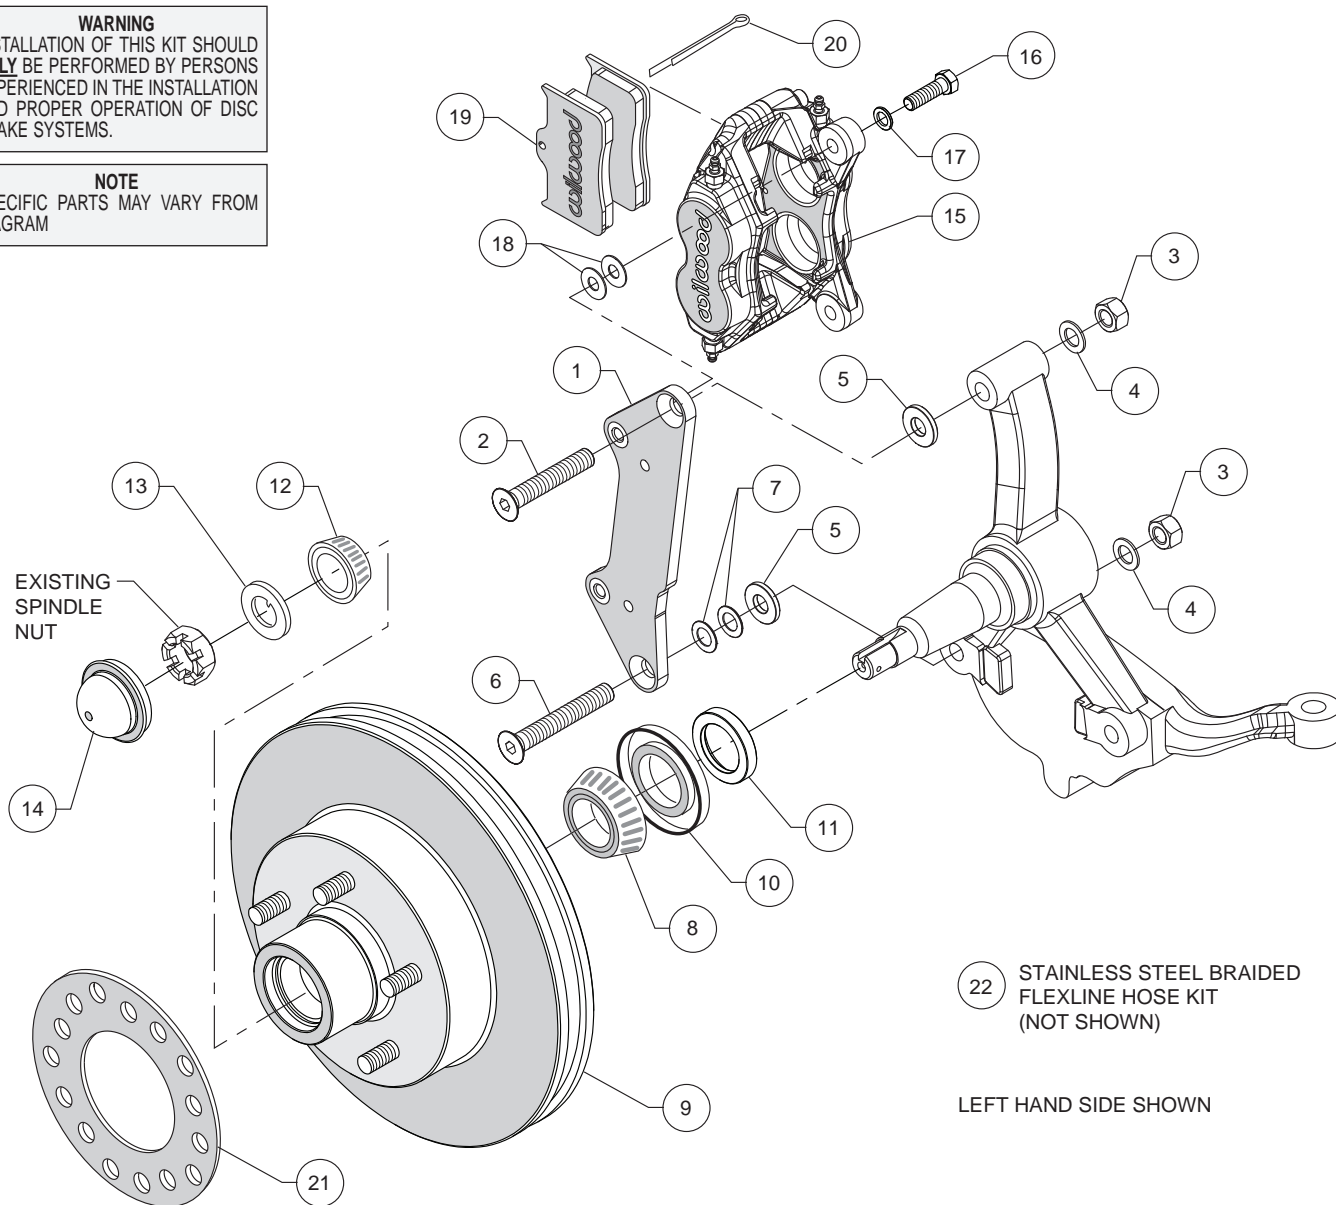
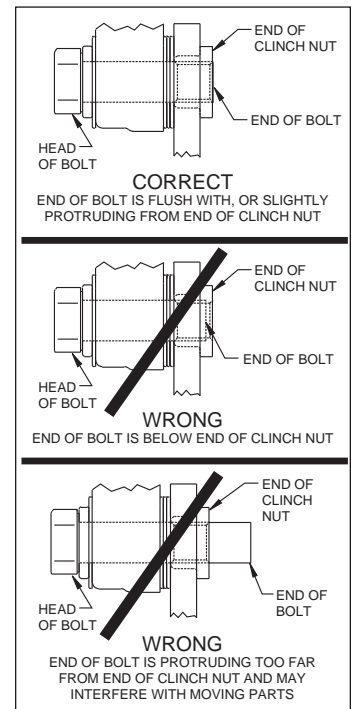

Figure 1. Typical Installation Configuration
Figure 3. Clinch Nut Engagement Diagram
Assembly Instructions (numbers in parenthesis refer to the parts list and Figure 1 on the preceding pages): **CAUTION:** All mounting bolts must fully engage clinch nuts. Be sure to check that all bolts are either flush or protruding through flanged side of clinch nut after shimming, Figure 3.
•The caliper bracket (1) should initially be installed with clean, dry threads on the mounting bolts. Orient the bracket as shown in Figure 1 and Photo 1, and install using bolts (2/6), nuts (3) and washers (4). Place a .147" thick spacer (5) positioned between the bracket and spindle on both the upper and lower bolts, as shown in Figure 1. Initially place two .032" thick shims (7) on the lower bolt between the bracket and spacer, Figure 1. Ensure that the flanged heads of the clinch nuts in the bracket are facing outboard, Photo 1. Temporarily tighten the mounting bolts.
•Pack the large inner bearing cone (8) with high temperature disc brake bearing grease (available from your local auto parts store) and install into the backside of the hub (9), Photo 2.
•Install the grease seal (10) by pressing into the backside of the hub (9), flush with the end of the hub.
•Slide the bearing spacer (11) onto the spindle. Ensure the chamfered I.D. faces inward, Photo 3.
•Temporarily install the hub/rotor (9) onto the spindle using outer bearing (12), spindle washer (13), and spindle nut. Check that the caliper mounting bracket (1) is aligned parallel to the rotor, Photo 4. If not, adjust by adding or subtracting shims (7) on the lower bolt between spacer and bracket, Figure 1. Once the bracket alignment is correct, remove bolts one at a time, apply red *Loctite*® 271 to the threads and torque nuts to 77 ft-lb.
•Remove hub/rotor and pack the small outer bearing cone (12) with high temperature disc brake bearing grease and final install into the front side of the hub (9). Slide the hub/rotor onto the spindle. Secure using spindle washer (13), and original spindle nut. Bearing adjustment: Tighten the nut while turning the hub. When there is a slight bind on the bearings, they are seated correctly. Back the nut off about 1/6 to 1/4 of a turn, or sufficiently to allow .001" to .007" end play. **WARNING:** Failure to back off adjusting nut could cause bearing to run hot and be damaged, which could cause the wheel to lock or come off. Install a new cotter pin (not supplied), Photo 5.
•Press the dust cap (14) into the hub (9), Photo 6.
•**NOTE:** Please reference the caution statement at the beginning of the assembly instructions. Mount the caliper (15) onto the caliper mounting bracket (1) using bolts (16) and washers (17), as shown in Figure 1. Initially place two .035" thick shims (18) on each bolt between the caliper and the bracket, Photo 7. Temporarily tighten the mounting bolts and view the rotor (9) through the top opening of the caliper. The rotor should be centered in the caliper, Photo 8. If not, adjust by adding or subtracting shims between the bracket and the caliper. Always use the same amount of shims on each of the two mounting bolts. **NOTE:** The end of each bolt must be flush with or slightly protruding from the head of the clinch nut, as shown in Figure 3. If necessary place spare shims between washer (17) and caliper mounting ear to achieve the proper clinch nut engagement. Once the caliper alignment and clinch nut engagement are correct, remove the bolts one at a time, apply red *Loctite*® 271 to the threads, and torque to 40 ft-lb.
•Install the disc brake pads (19) into the caliper, with the friction material facing the rotor (9), Photo 9. Secure in place using cotter pin (20), Photo 10.
•Install wheel spacer (21), if necessary for wheel clearance, Figure 1 and Photo 11. Temporarily install wheel and torque lug nuts to manufacturer's specification. Ensure that the wheel rotates freely without any interference.
•**NOTE:** OEM rubber brake hoses generally cannot be adapted to Wilwood calipers. The caliper inlet fitting is a 1/8-27 NPT. Install Wilwood's stainless steel braided flexline hose kit (22), P/N 220-6471 included with this kit, Photo 12. **Carefully route hoses to prevent contact with moving suspension, brake or wheel components.** **NOTE:** Wilwood hose kits are designed for use in many different vehicle applications and it is the installer's responsibility to properly route and ensure adequate clearance and retention for brake hose components.